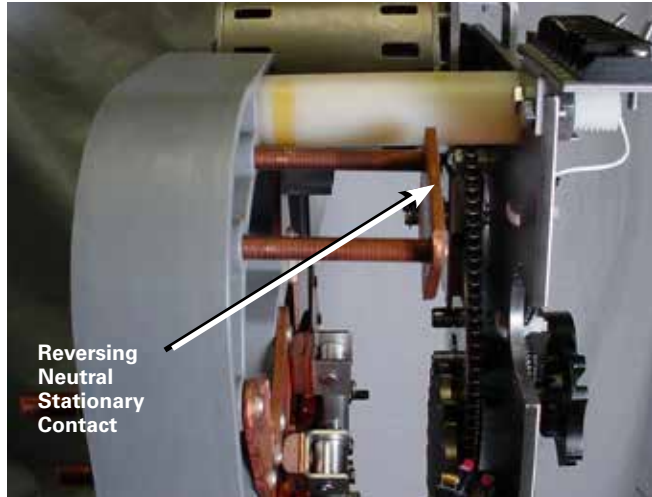

Figure 64. Replacing reversing neutral stationary contact.
1. Place a new reversing neutral stationary contact into the mounting holes in the contact panel. Place the contact assembly so that it is in the board but far enough out so that engagement can be made when installing the reversing movable contact assembly. See Figure 64.